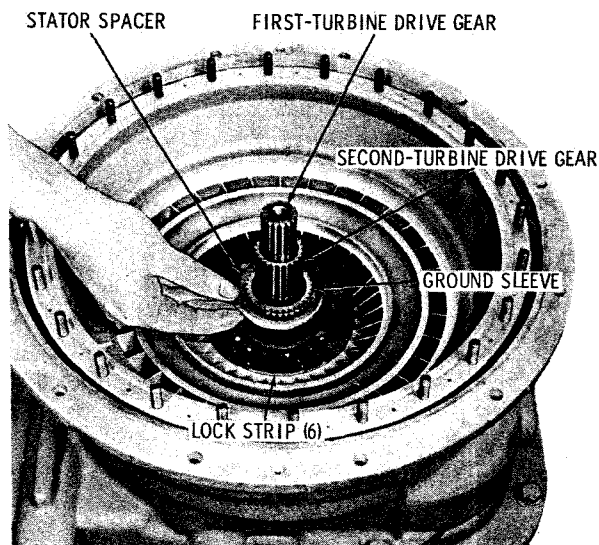

Fig. 5-12. Removing stator spacer
(3) Remove the stator spacer from the converter ground sleeve (fig. 5-12).